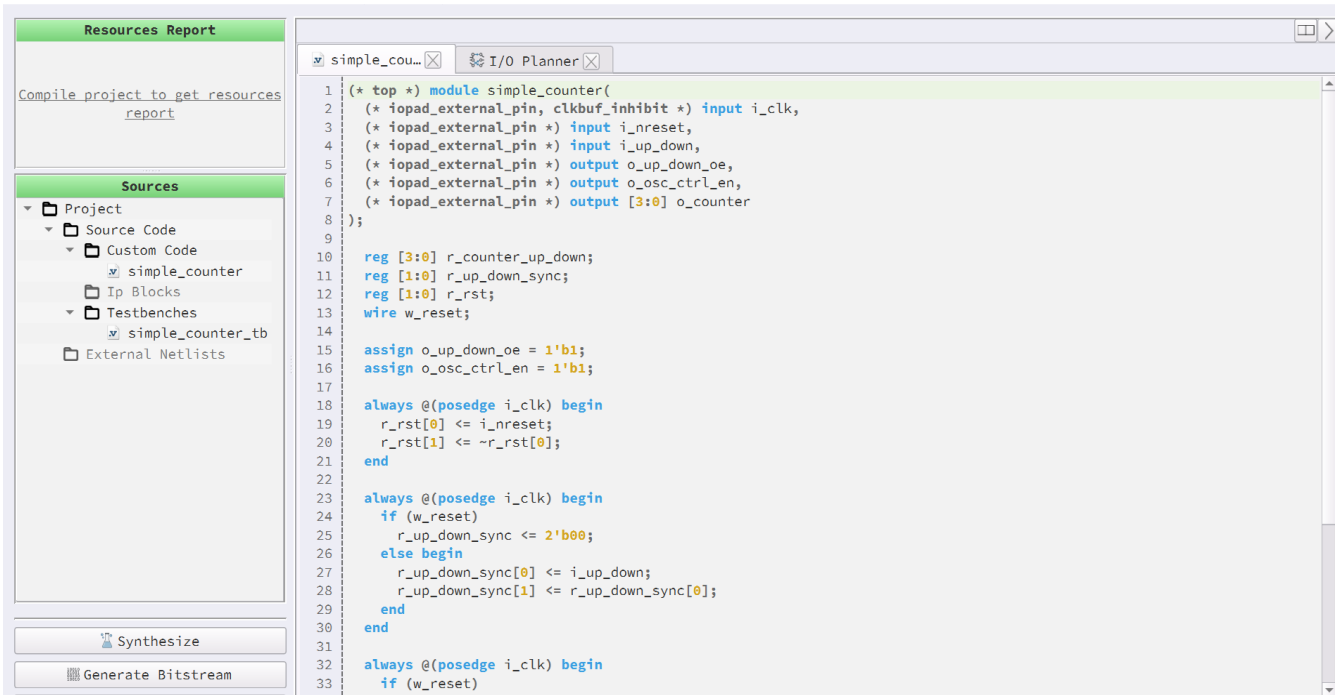

Figure 14. Working with Verilog Example
- **(* top *)** – the top module of your design should be marked with this attribute so the toolchain can successfully recognize which of the modules in the design is the top one. Line 1 – [Figure 14]
- **(* clkbuf_inhibit *)** – clock signals in the input list of the main module should be marked with this attribute to prevent clock buffer insertion by the synthesis tool, which may lead to the distortion of the clock signal name in the resulting netlist. This attribute belongs only to Synthesis; the compile process requires the customer to assign IOBs manually on the I/O Planner that are predefined clock trees. Line 2 – [Figure 14]
- **(*iopad_external_pin*)** – all external pins that are used in any module need to be marked with this attribute. Line 2-7 – [Figure 14]